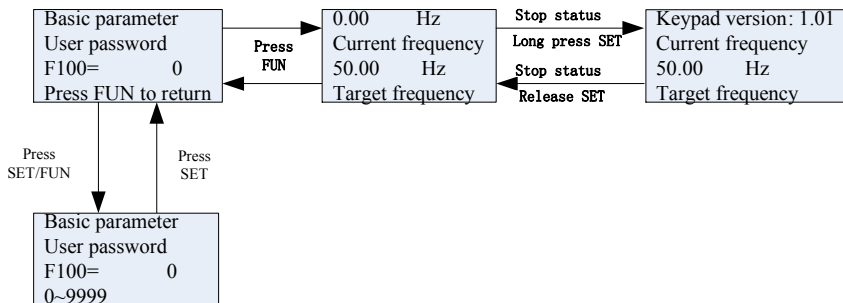

Fig 5-2 Operating flow chart of interface switch
(1) Connect the wires in accordance with Figure 5-2. After having checked the wiring successfully, switch on the air switch, and power on the inverter;